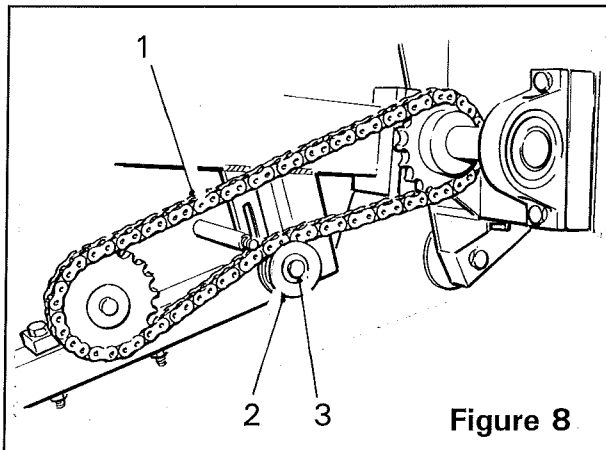

Figure 8
The agitator drive chain (item 1, figure 8) is tensioned by roller (item 2, figure 8). To adjust the tension of the drive chain, loosen the securing bolt (item 3, figure 8) and slide the roller to increase/decrease the chain tension. Once the correct tension is achieved, retighten the securing bolt ensuring that the roller is still able to turn.